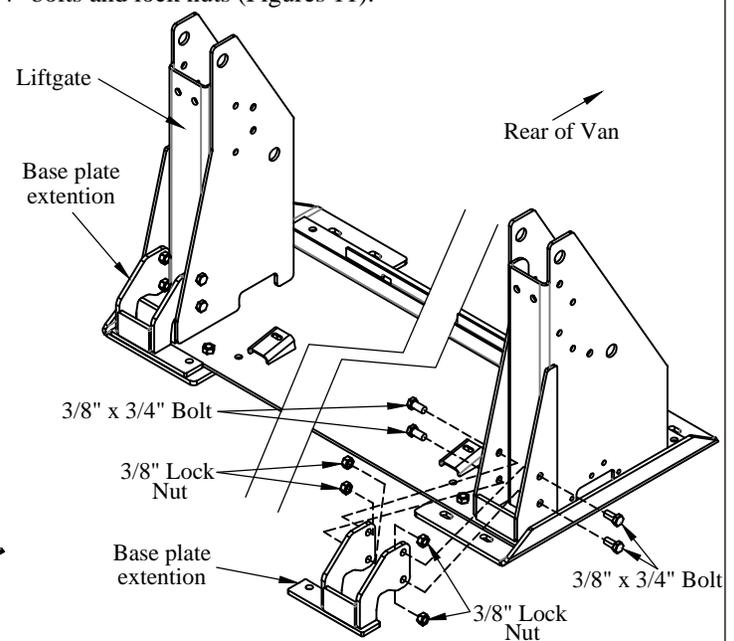

Figure 11: Bolt bracket extensions to liftgate. Parts removed for clarity.
8. **Position** the base plate extensions on the 1/4" floor supports (Figures 11).
9. **Fasten** the base plate extensions to the liftgate using the 3/8" x 3/4" bolts and lock nuts (Figures 11).